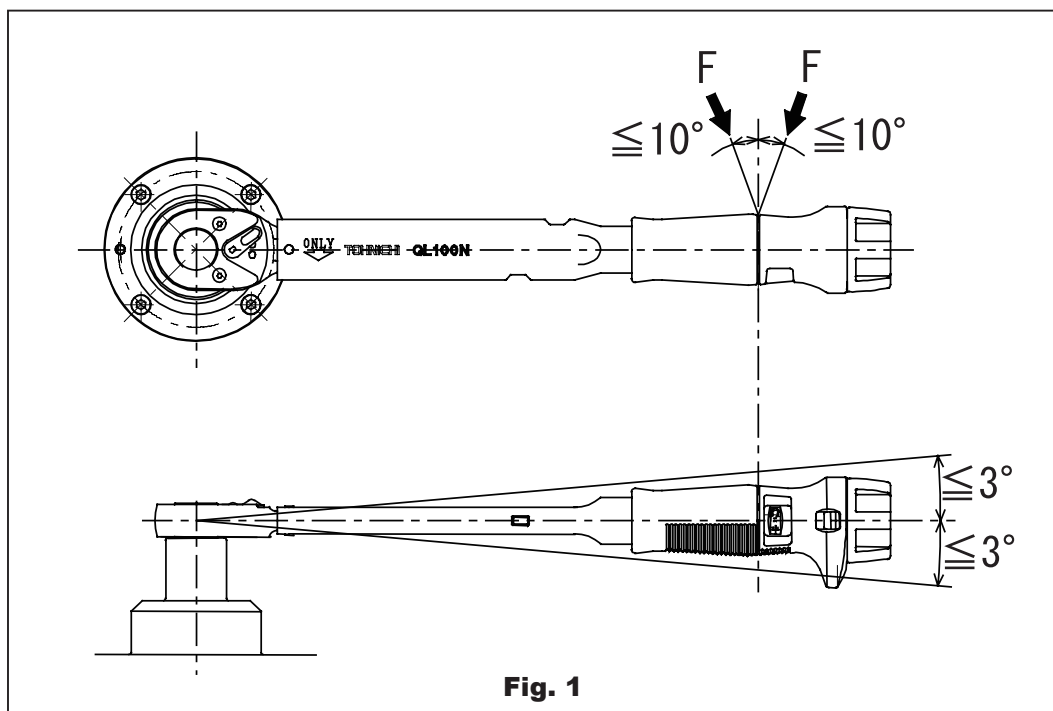

Fig. 1
- (1) Place the torque wrench tester on a stable workbench.
- (2) For dial and beam type torque wrenches, read the measurement value in a direction perpendicular to the scale or dial. (Parallax correction)
- (3) For click type torque wrenches (QL/SP type), without measuring, load the torque wrench in an operating direction at the maximum capacity (nominal capacity of the torque wrench) 5 times for shakedown. Conduct the same procedure in other operating directions.
- (4) For dial and beam type torque wrenches (CEM/DB/F type), before calibration, load the torque wrench up to the maximum torque value and release the loading. Then, be sure to set the scale or digital display to zero. Conduct the same procedure in other operating directions.
- (5) Apply the load at the center of the grip or at the marked loading point within the specified range in Fig. 1.